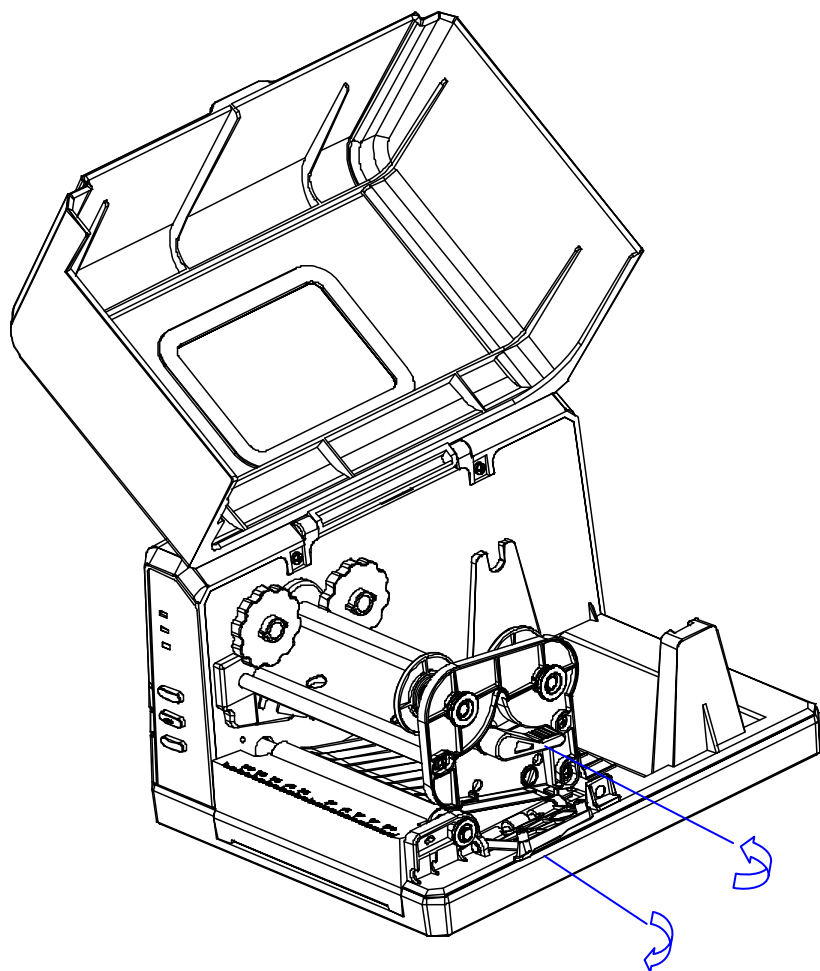

Figure 5-1
1. Open the right cover of the printer and turn the handle to the “open” position. Flip down the Printhead Module Plate (see Figure 5-1).